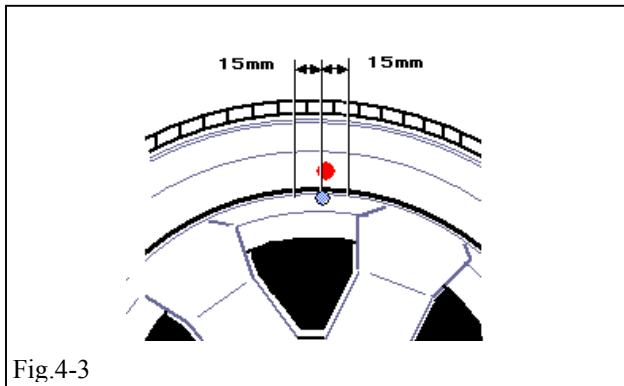

Fig.4-3
- (1) The red dot on tire and yellow sticker on wheel must be aligned to within +/- 15 mm center to center. (Fig. 4-3)